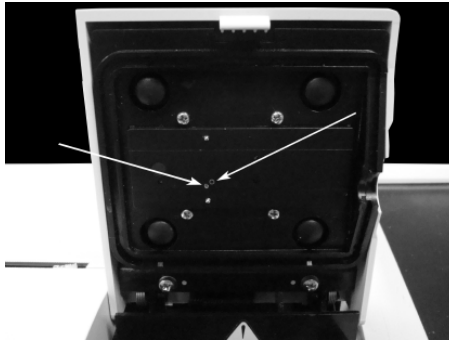

Fig. 7-59 Locate Optical Channels
1. Open the SMC cover and locate the two small optical channels pictured below (Fig. 7-59).